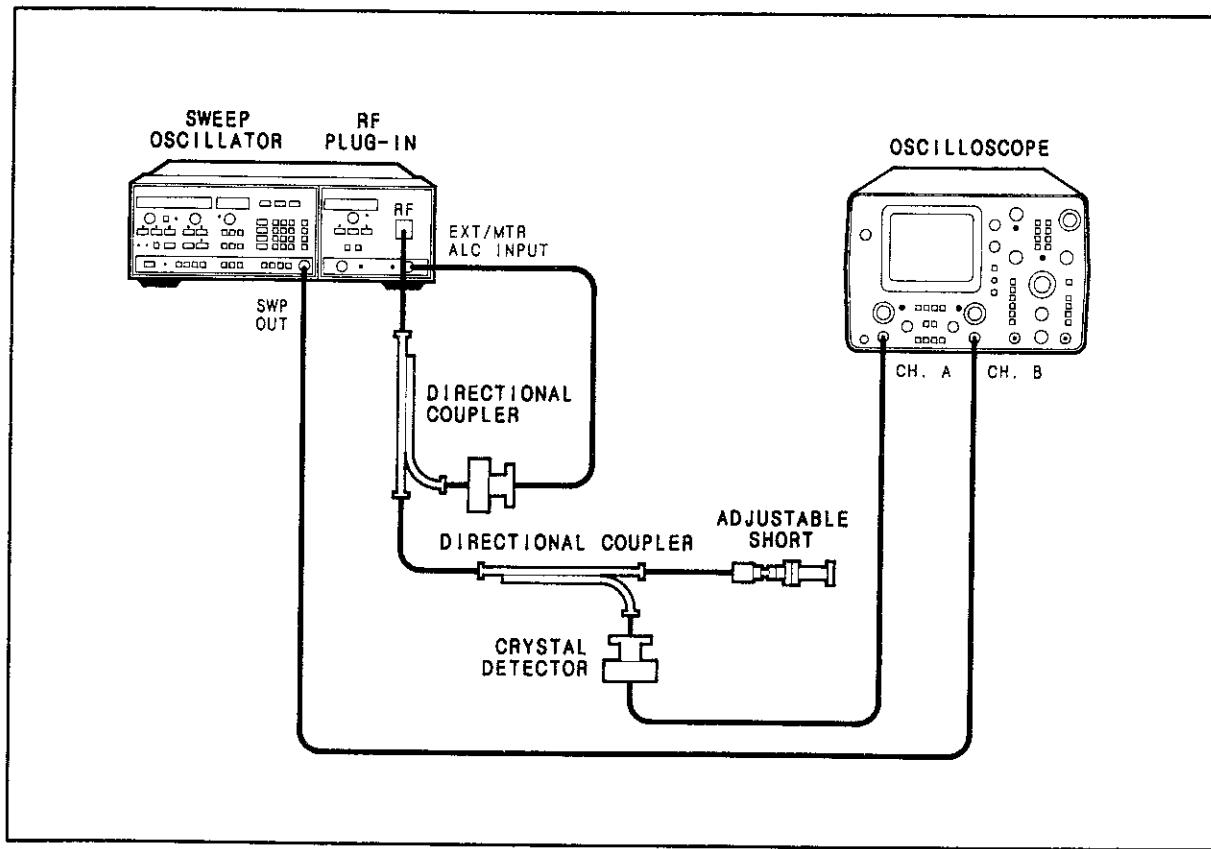

Figure 4-11. Output SWR Test Setup
1. Connect equipment as shown in Figure 4-11. If the 83572A/B is not an Option 001, connect the directional coupler directly to the waveguide RF output connector.